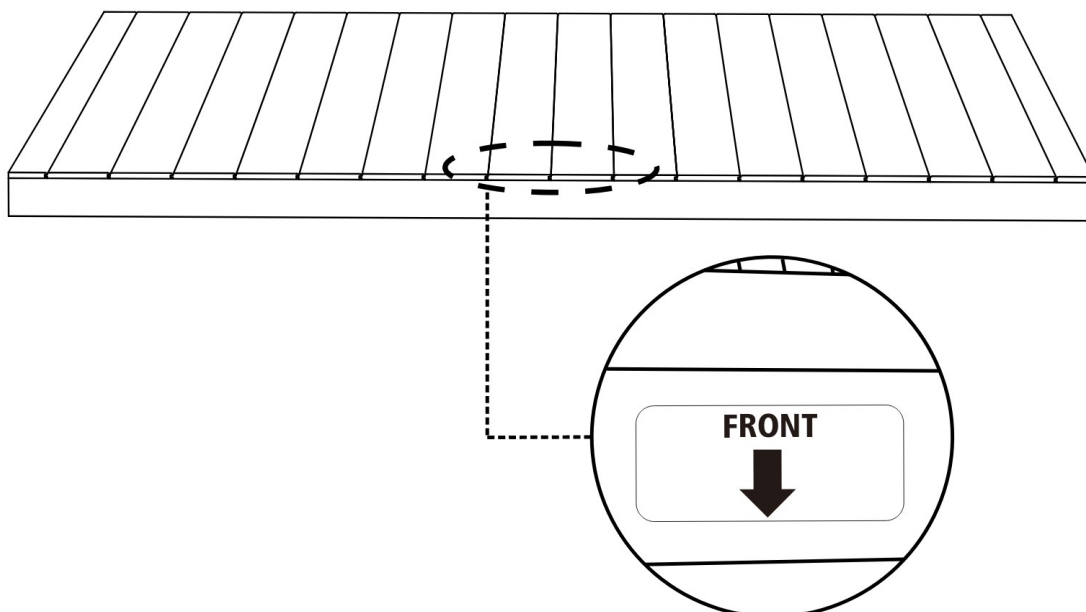

Figure 6. Floor Panel in position. The FRONT label on the front edge faces the door clearance.
- Turn the Floor Panel so the FRONT label faces the door clearance (Figure 6). The Right Panel (C) side, with the air intake, must have its 12 in clearance, and the Left Panel (A) side, with the fan, its 24 in clearance.